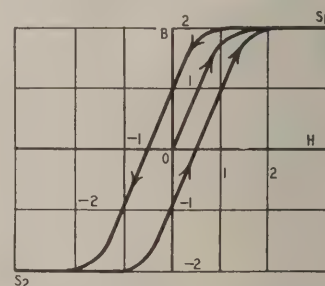

Fig. 1—The general hysteresis curve. The enclosed area and steepness of the curve are a measure of core properties.
Magnetic material is supposed to be composed of small permanent magnets, which in an unmagnetized piece of material are randomly oriented—that is, they point in all directions. Passing an electric current through a coil wound around the material magnetizes it—aligns the magnets so they all point in one direction. But if the current is turned off the material does not go back to its unmagnetized state. Many of the minute permanent magnets remain lined up and give the material more or less *residual magnetism*. It is necessary to pass current through the coil in the opposite direction to *demagnetize* the material. This is shown in Fig. 1.
The enclosed area and width of the curves in Figs. 1 and 2 are a measure of the hysteresis, or magnetic friction, of the material. The best material for magnetic amplifiers is the one with the narrowest curve. Note, Fig. 1, if the material were perfect, the curve which started from zero and went up to 2 as H increased would decrease in exactly the same fashion. That is, by the time the coil current (NI) which produced H had sunk to zero, the magnetism B would be at zero also. Then the B - H curve would be a slim line. But, the higher on B the curve is when H reaches zero, the stronger the negative H field (current in the coil in the opposite direction) will have to be before B goes to zero; the field will have to be stronger after the current in the coil has turned again, to bring B back to zero. This widens the curve.